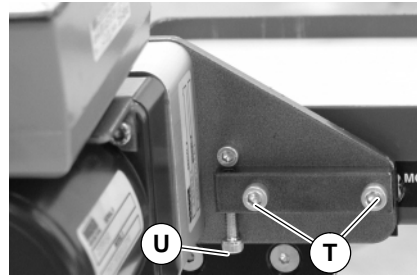

Figure 9
1. Loosen two (2) mounting package mounting screws (T of Figure 9).